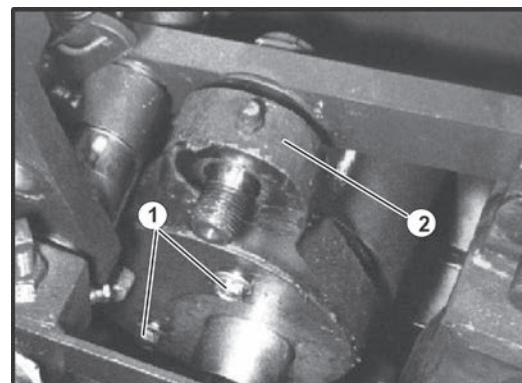

FIGURE 4
7. Remove the two screws **1** hold the retainer on the connecting rod. Remove retainer, seal ring, and connecting rod **2**. (Figure 4)